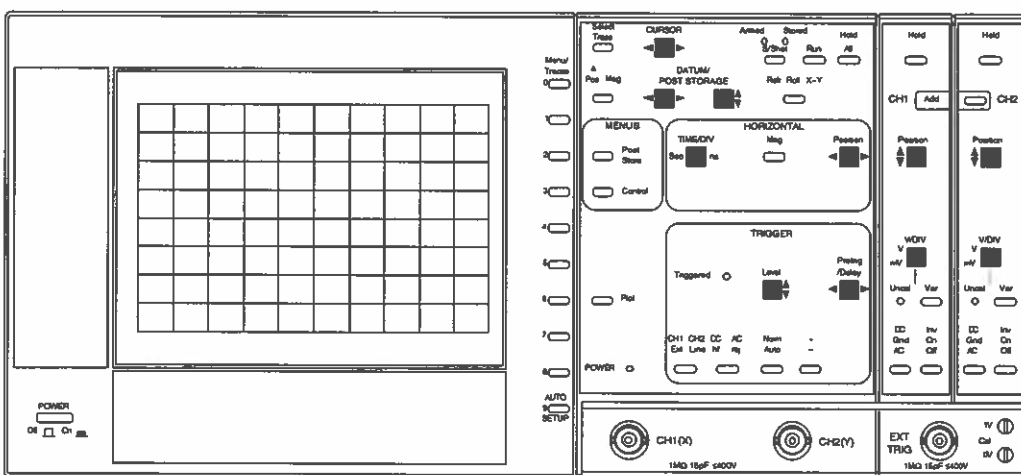

Figure 1.2c The Paddles
Five position paddles cause a parameter change which depends upon how far the paddle is pressed. For example, a gentle press of a Position (46) paddle will move the trace slowly. If the paddle is moved further, the trace will move more quickly. See figure 1.2c.